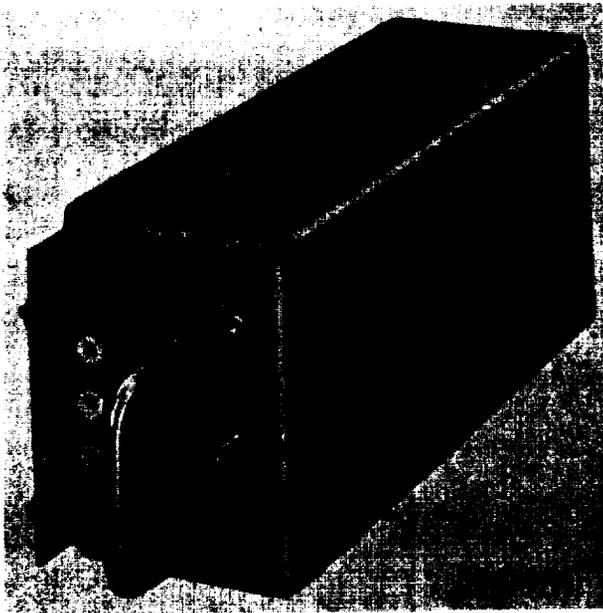

Figure 1-10. Control frequency A2.
g. Control Frequency A2 (fig. 1-10). This assembly is located below the audio frequency